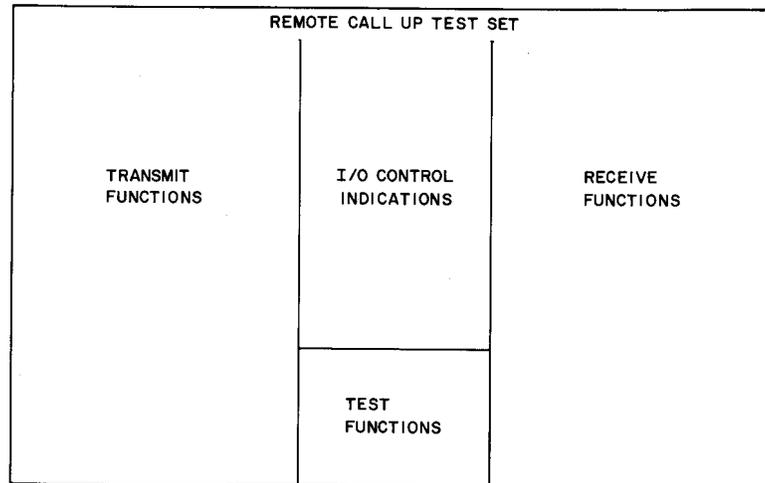

Fig. 2—Location of Controls and Indicators for the RCU Test Set
**3.03** The front panel of the RCU test set is divided into four sections (Fig. 2); they are the transmit, I/O control Indications, receive, and